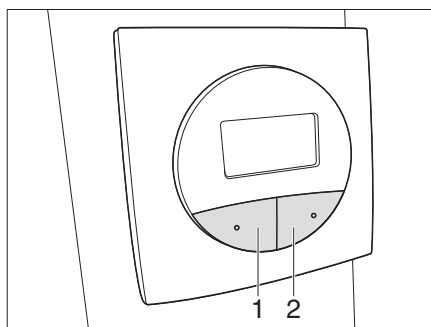

Fig. 39 Teleco satellite unit panel
- Press the SAT button (Fig. 39,2) **twice**.
- Press the PARK button (Fig. 39,1).